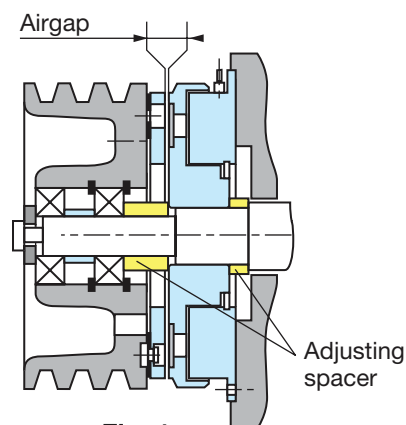
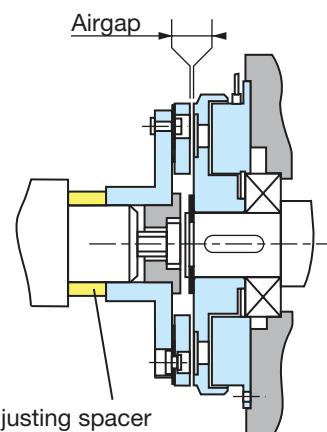

Fig. 1
Fig. 2
Inductor (104) should be fixed to the frame of the machine, centred by the collar (see figure 1) or directly centred on a bearing forming a support (see figure 2). In this case, a circlip fitted in the groove provided for the purpose holds it central to the bearing.